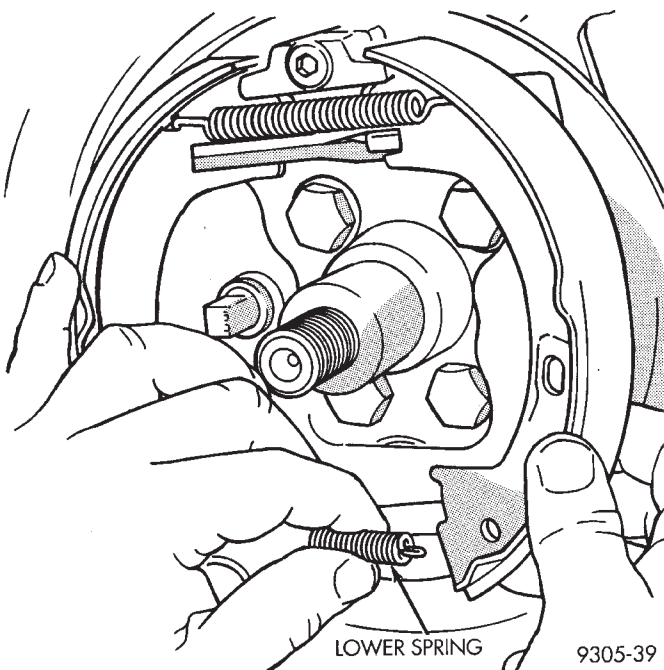

Fig. 3 Removing Lower Spring
- (9) Remove lower parking brake, shoe to shoe spring (Fig. 3).